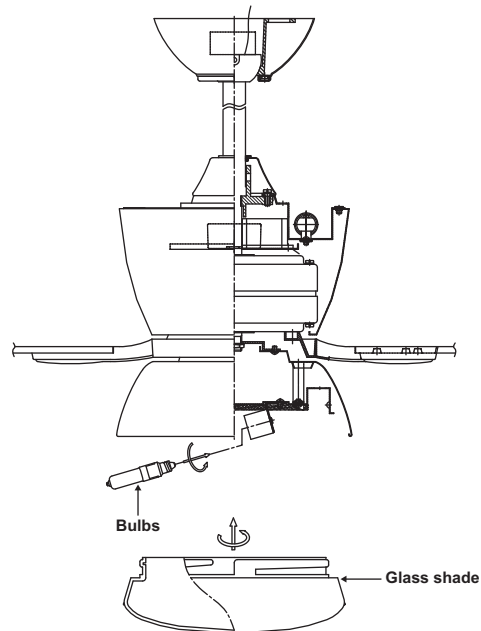

Figure 17
Step 1. Install 1 × 100W halogen bulbs (included). (Fig. 17)
Step 2. Install the glass shade by carefully turning it clockwise until snug. **DO NOT OVERTIGHTEN.** (Fig. 17)